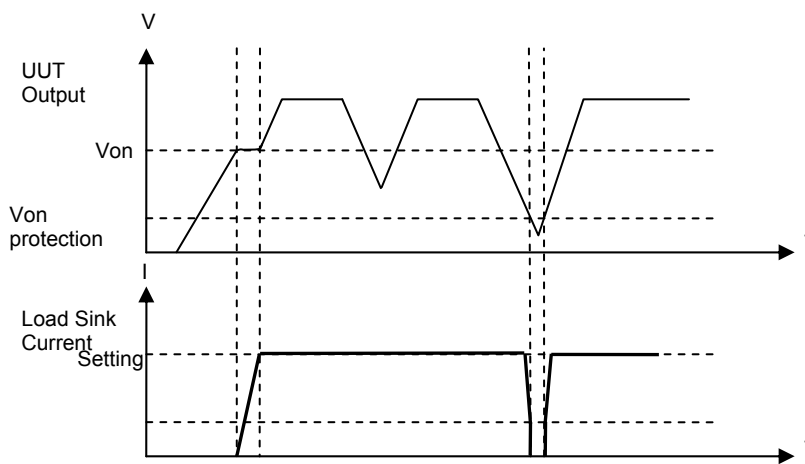

Figure 3-18 When Von Point is not set to 0V with Protection
- (3) When it is “LOAD ON”, VON POINT is not set to 0V and Von Protection is enabled, switch the SW to on after it was turned off for a period of time and then turn it off again. There will be no current loading when the power is lower than the default protection voltage, and once the SW is turned off and the power is larger than the default voltage, the loading state will regain as Figure 3-18 shows.